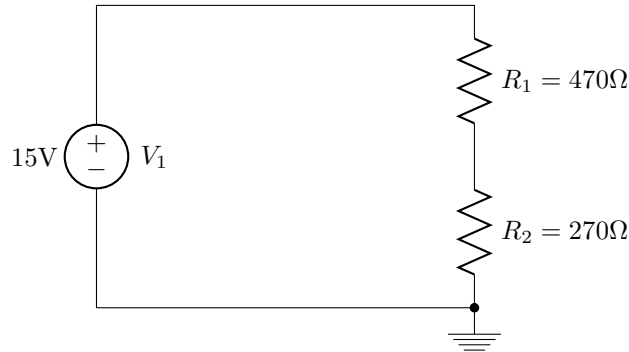

Figure 1:
1. Analyze the circuit shown Figure 1
1. Create the circuit from Prelab part 1 (shown Figure 1) in Multisim and simulate the circuit using the same DC Analysis feature.
The software is better introduced with an example. For this section you will enter and analyze the first prelab circuit (shown Figure 1, as it will look in Multisim). Creating a circuit diagram works much like a paint program. First you place components on the workspace, and then you connect them together by 'drawing' wires. Then we will simulate its behavior and attach virtual instruments to the circuit to observe various measurements.